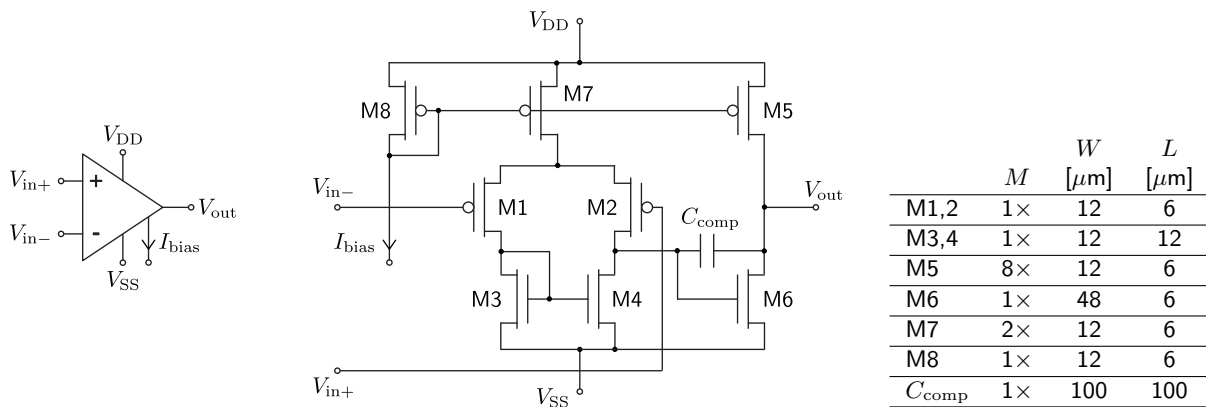
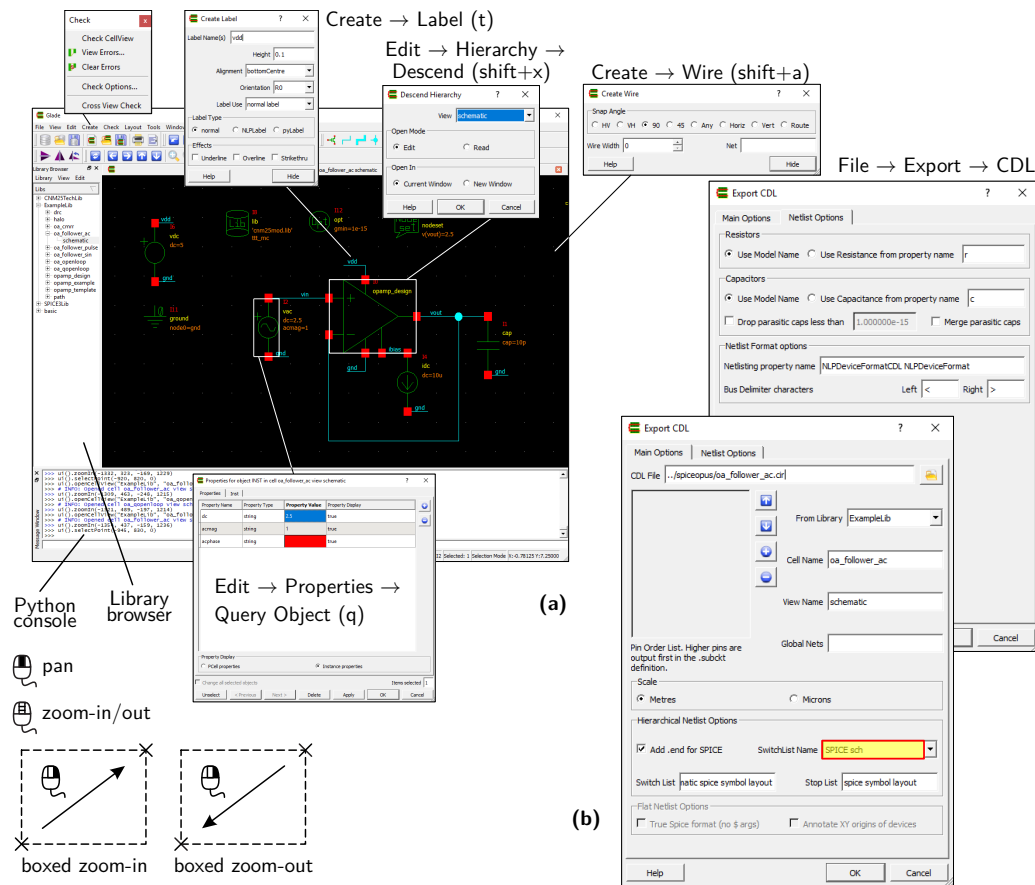

Figure 3 | OpAmp symbol, CMOS schematic and initial device sizing.
Figure 4 | Main window of the Glade schematic editor (a) and CDL export dialogue configuration (b) for SPICE schematics (pre-layout).
The CMOS circuit implementation chosen for your OpAmp is the classic two-stage Miller-compensated single-ended output topology of Fig. 3, consisting on two cascaded voltage amplification stages [4]. The first stage includes the PMOS differential pair M1-M2 with current steering M3-M4, all biased by the current mirror M8-M7. The second stage is built around the inverting amplifier M6 biased by the current mirror M8-M5. Finally, the nested capacitor C_{comp} is introduced for the frequency compensation of the multi-pole OpAmp. The initial circuit design parameters are shown in the same figure.
Starting with the design methodology of Fig. 1, all schematic entries at system and circuit levels are performed through the Glade editor. When in schematic mode, this tool supports symbol edition, net and pin labeling, design hierarchy and instance annotation, among other features. As an example, Fig. 4 depicts the equivalent schematic of the OpAmp presented in Fig. 3 being edited in Glade using the PDK custom library damics-kit/glade/ExampleLib. Taking advantage of Glade netlisting configurability, specific backend rules have been defined in all symbols to generate circuit description language (CDL) netlists compatible with SPICE3 simulation.
- 🔧 Open the OpAmp cell view ExampleLib→opamp_design→schematic with the library browser and fill the device parameter values of Fig. 3.